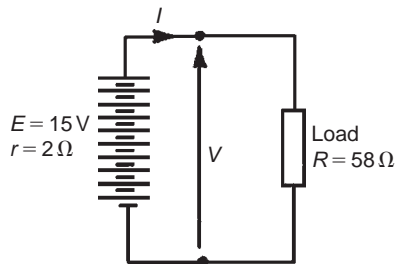

Figure 6.4
- (a) For ten cells, battery e.m.f., $E = 10 \times 1.5 = 15\text{ V}$, and the total internal resistance, $r = 10 \times 0.2 = 2\Omega$. When connected to a 58Ω load the circuit is as shown in Fig. 6.4